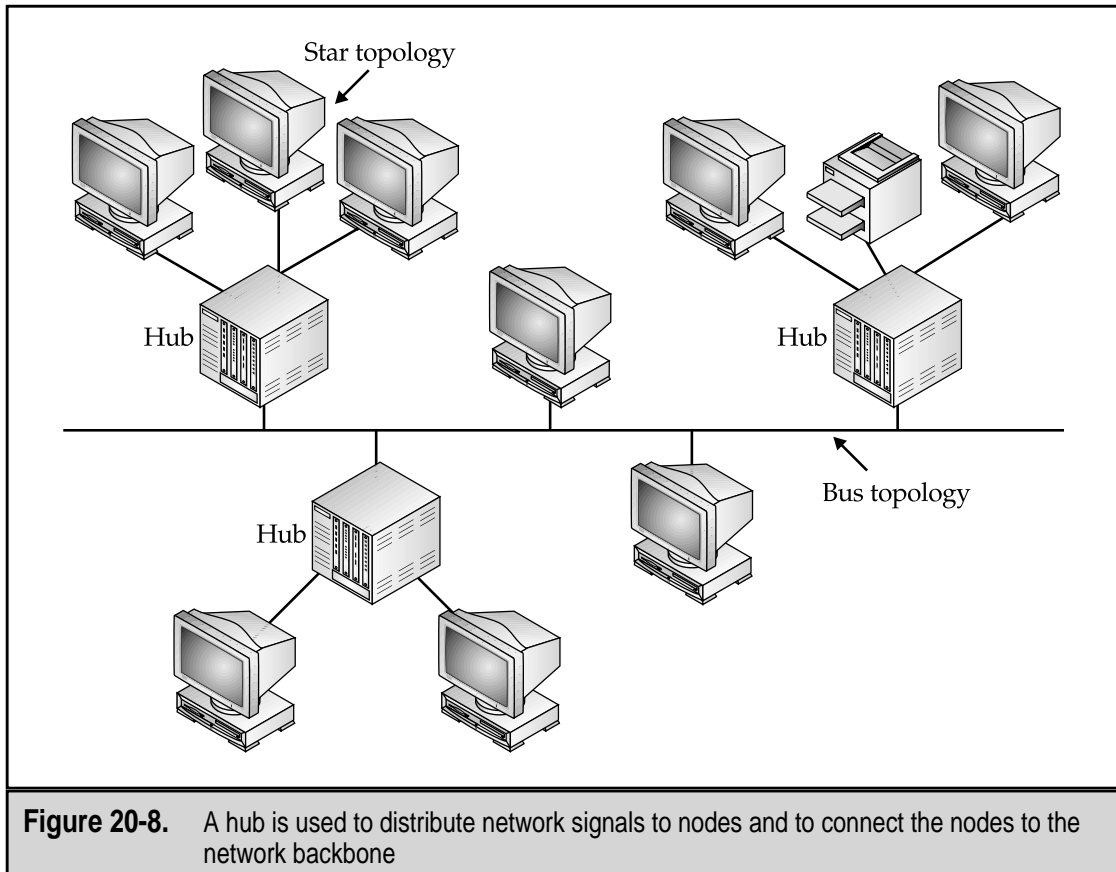
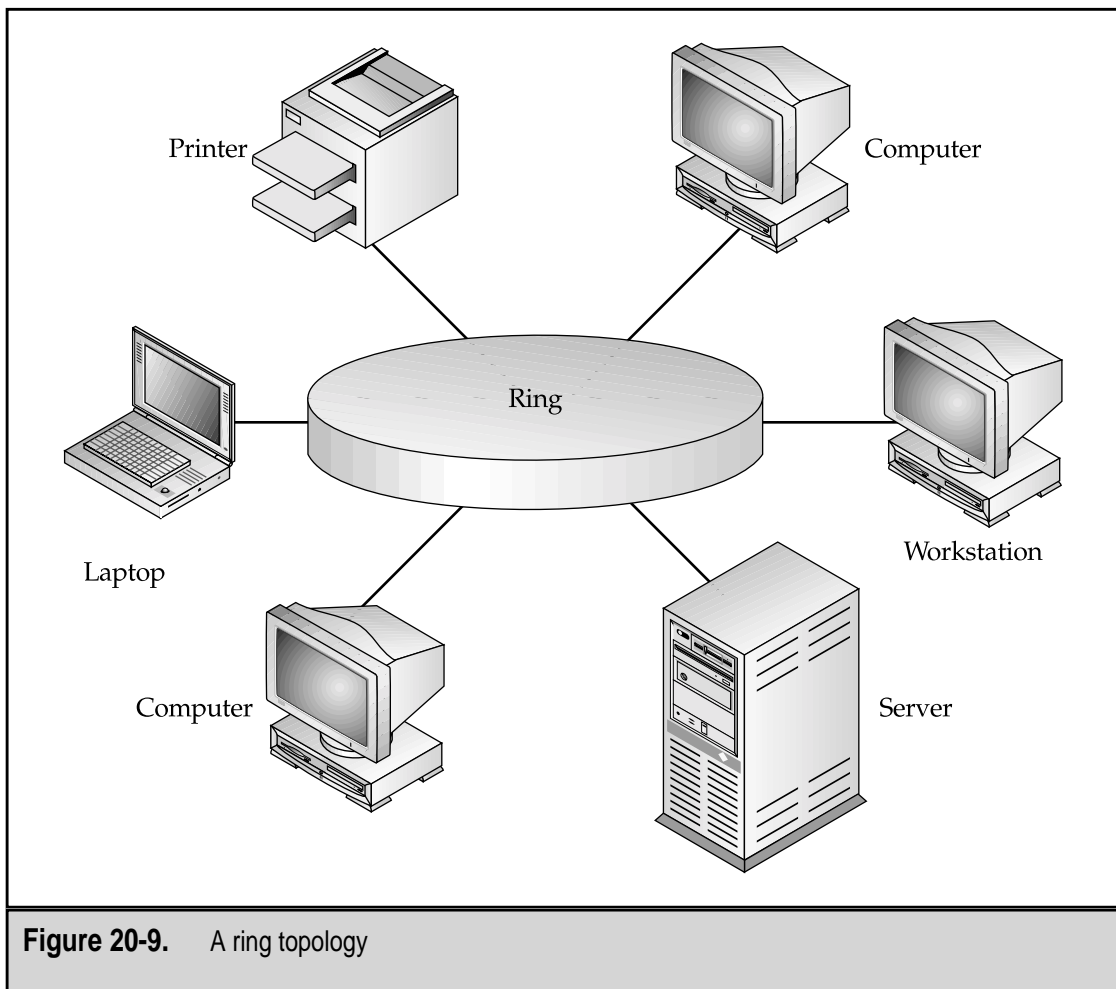

Figure 20-8. A hub is used to distribute network signals to nodes and to connect the nodes to the network backbone
Figure 20-9. A ring topology
As illustrated in Figure 20-8, a hub is a networking device used to connect PCs, workstations, and peripheral devices to the network. Each workstation or device is plugged into one of the hub's ports along with a connection to the network's backbone. In general, a hub receives a signal from one port and passes it on to all of its other ports and to whatever is attached to these ports. For example, if an 8-port hub receives a signal on port 4, it immediately passes the signal to ports 1, 2, 3, 5, 6, 7, and 8.
- ▼ **Bus/Ethernet** Nodes are connected to hubs or switches, which are in turn connected to a central backbone cable that runs the length of the network. The bus topology is commonly used for Ethernet networks. Refer back to Figure 20-8 for an illustration of how the bus topology is typically implemented.
- **Ring/Token Ring** The primary network cable is installed as a loop, or *ring*, and the workstations are attached to the primary cable at points on the ring. The ring topology is the basis for the token ring network structure. Figure 20-9 illustrates a ring topology. On a token ring network, PCs are attached to devices called multiaccess units, which are very similar to a hub, as in the arrangement shown in Figure 20-8.
- ▲ **Star** Each workstation is connected directly to the central server with its own cable, creating a starburst-like pattern. The star topology, common to ARCNet networks, is used today with both Ethernet and token ring networks to cluster workstations with hubs, which are then attached to the primary network cable. Figures 20-8 and 20-10 illustrate this arrangement.